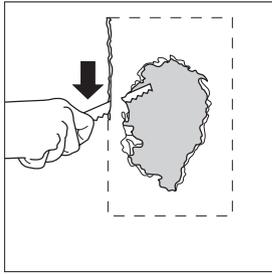
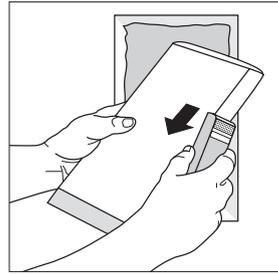
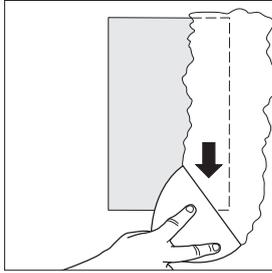
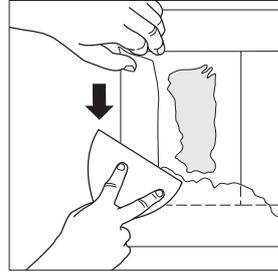

Fig. 6
Fig. 7
Fig. 8
Fig. 9
**Remedy 2:** Cut a square-shaped or triangular section around damaged area, with a utility knife or keyhole saw (Fig. 6); use a rasp or sanding block to slope edges inward at 45°. Cut corresponding plug from sound gypsum panel, sand edges to exact fit (Fig. 7). Butter edges (Fig. 8) and finish as a butt joint with joint compound (Fig. 9).